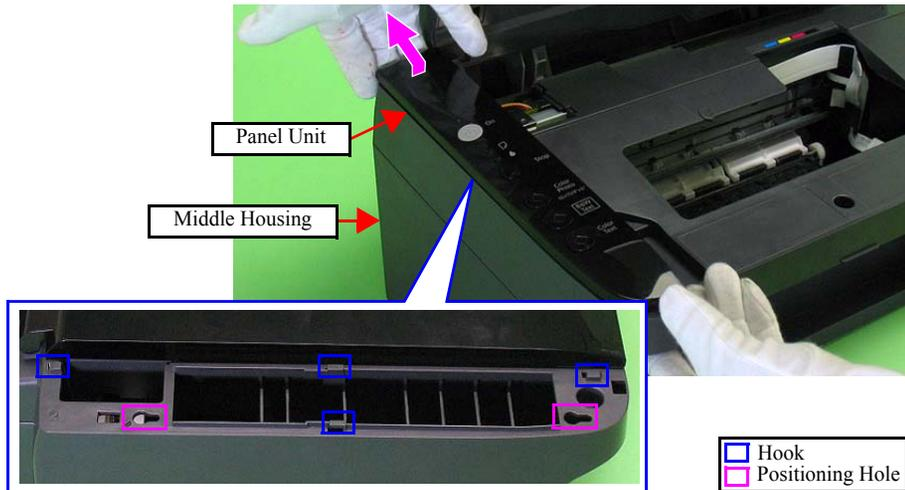
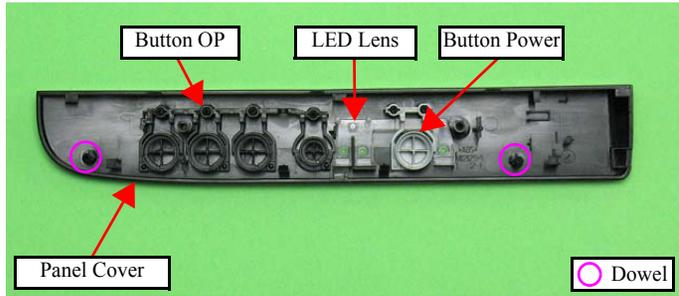

Figure 4-17. Removing the Panel Unit (1)
Figure 4-20. Removing the Buttons
- When installing the Panel Unit, align the positioning holes of the Middle Housing with the dowels of the Panel Cover, then secure them with four hooks. (See Fig.4-17, Fig.4-20.)